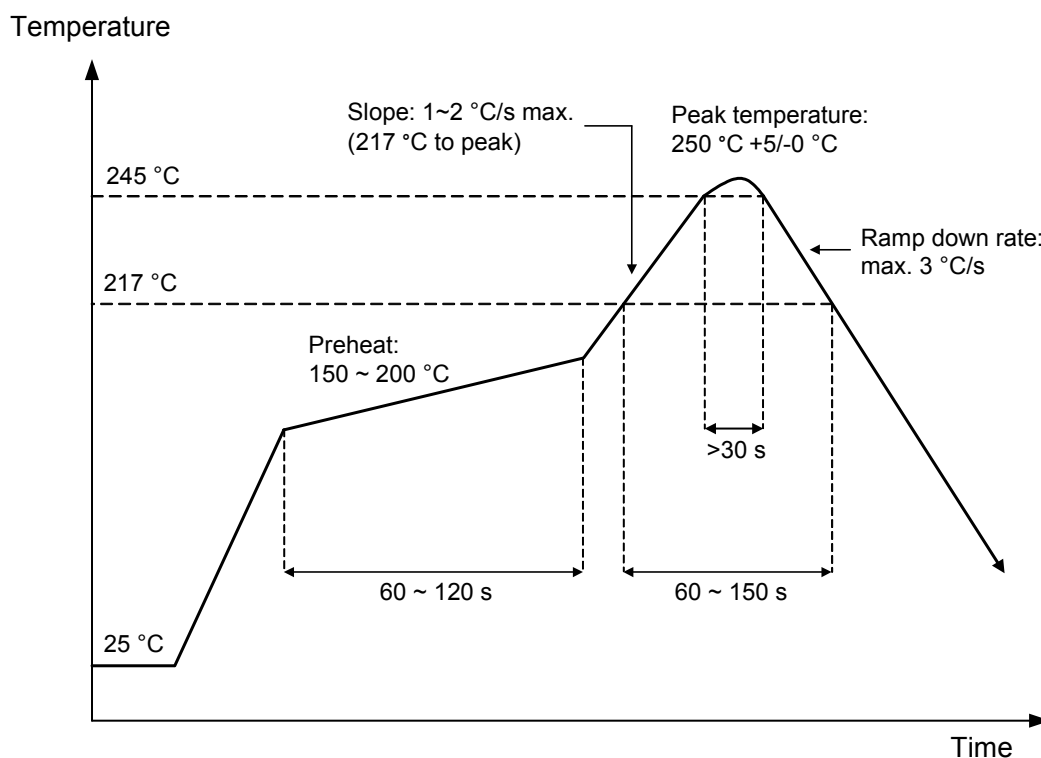

Figure 17: Reflow profile (lead-free)
- Reflow soldering profile updated (Figure 17).